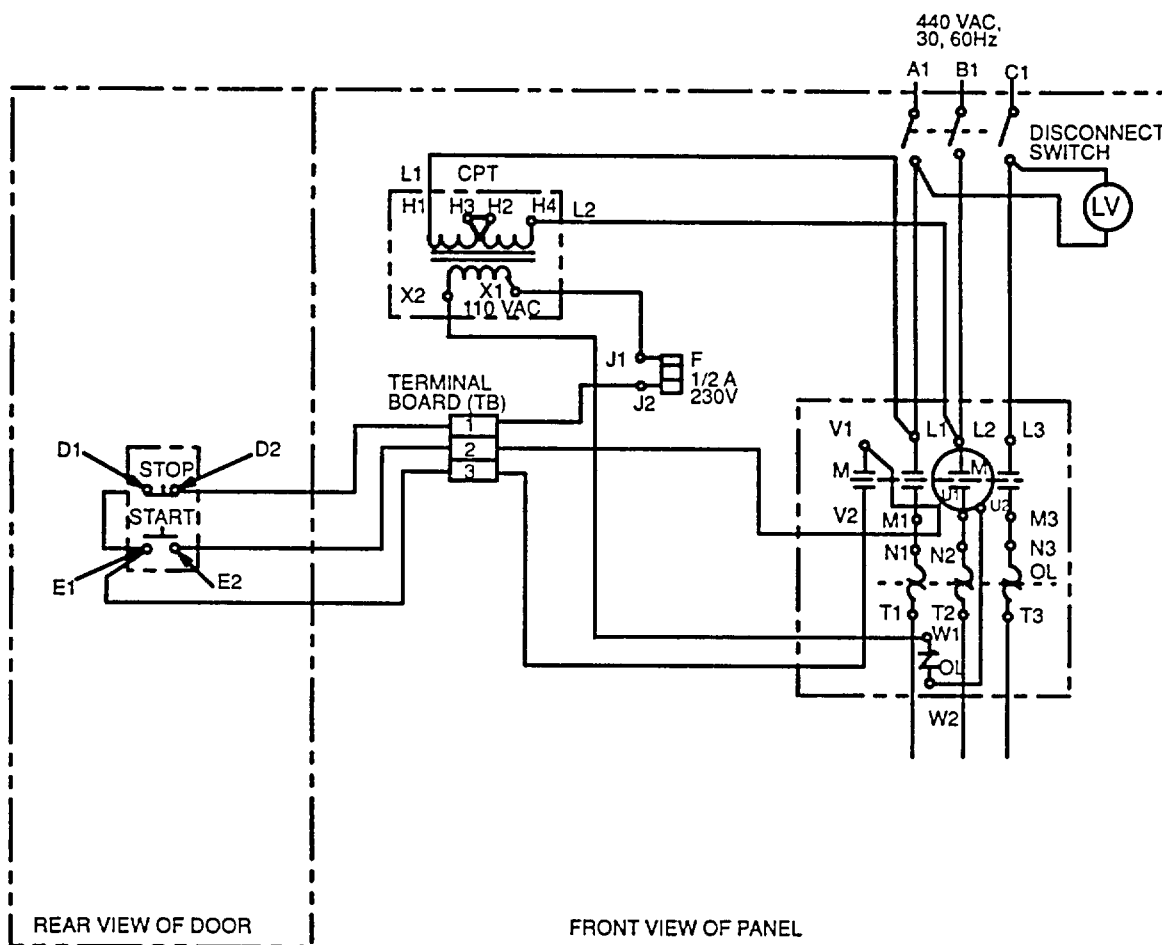

Figure 4-2. Cooling Pump Motor Controller Schematic
- a. With power panel 1 circuit breaker 1P5 closed (ON), check motor controller input line voltage across points A1 and B1, B1 and C1, and A1 and C1 (Figure 4-2). If voltage across any terminal pairs is 0 power source is at fault, go to step b to correct problem. If voltage across all three terminal pairs of points is 440, go to step c.